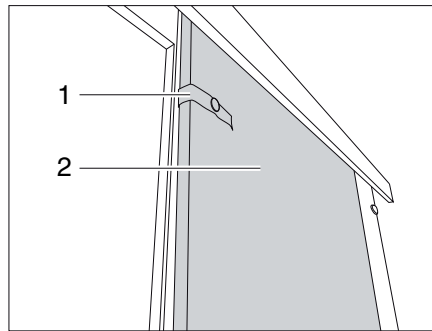

Fig. 226 Sliding door
- Release the securing strap (Fig. 226,1).
- Pull the sliding door (Fig. 226,2) into the closing position.
- Push the sliding door (Fig. 226,2) into the open position.
- Secure the sliding door with the securing strap (Fig. 226,1).